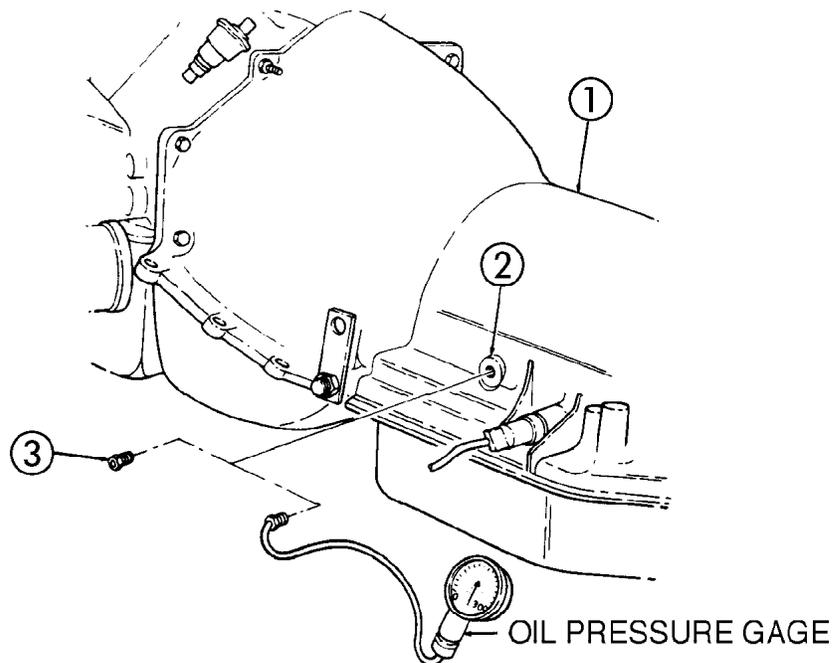

Figure 6-7. Transmission Oil Pressure Gage Removal.
**C. TRANSMISSION CONTROL VALVE AND GOVERNOR PRESSURE TEST (Figure 6-7)**
1. Remove pipe plug (3) from line pressure port (2) on left side of transmission (1).
2. Connect oil pressure gage to line pressure port (2).